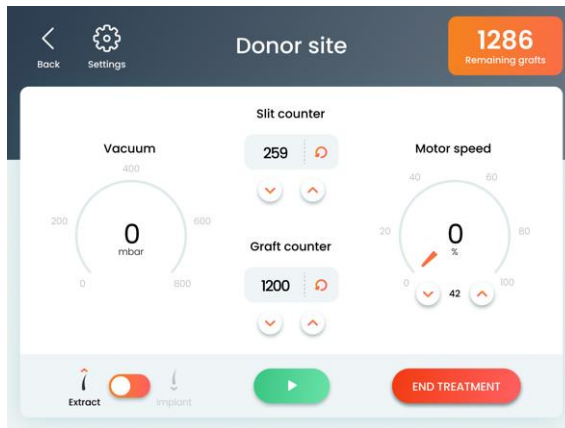

Figure 5-9. Donor Site Treatment Screen (in Pause State)
1. Verify that the Donor Site Treatment screen appears, as shown in Figure 5-9.